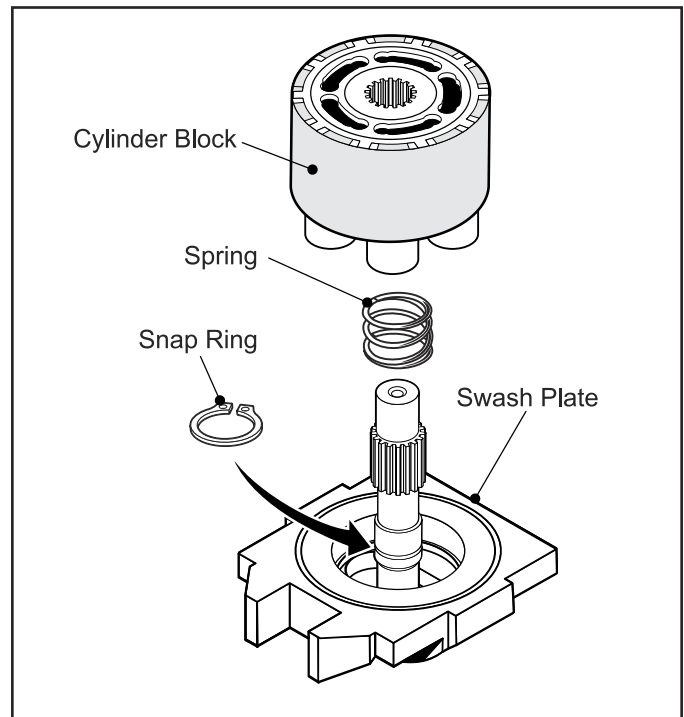

Fig. 22, Cylinder Block Assembly
3. Install Snap Ring and Spring onto Pump Shaft. (Fig. 22)